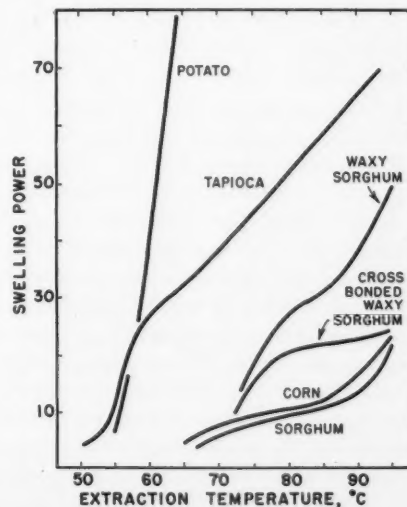

Fig. 6. Swelling patterns of various thick-boiling starches.
Detailed methods for evaluation of the first three properties have been published (8). The last two items describe the way in which the starch granules swell and dissolve when heated in water suspension to progressively higher temperatures. These latter studies were reported at the 1958 AACC meeting in Cincinnati (3). To recapitulate briefly, each starch has its own peculiar pattern of swelling. This can be determined by suspending a weighed starch sample in stirred water, heating in a thermostatted bath for 30 minutes, then centrifuging, decanting the aqueous supernate, and weighing the precipitate of swollen granules. The weight of this precipitated paste per g. of dry starch is termed the swelling power. If the swelling power is determined at intervals of 5°C. over the pasting range of the starch, the curves shown in Fig. 6 are obtained. Potato starch swells very rapidly, tapioca starch somewhat more slowly. Corn and sorghum starches show a restricted two-stage swelling, indicative of two sets of bonding forces within the granule, which are broken at